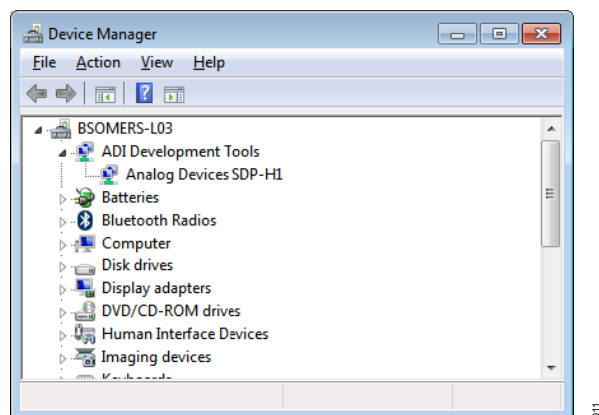

Figure 11. Device Manager Window
3. If the EVAL-SDP-CH1Z driver software is installed and the board is connected to the PC correctly, **Analog Devices SDP-H1** appears nested under **ADI Development Tools** in the **Device Manager** window, as shown in Figure 11.